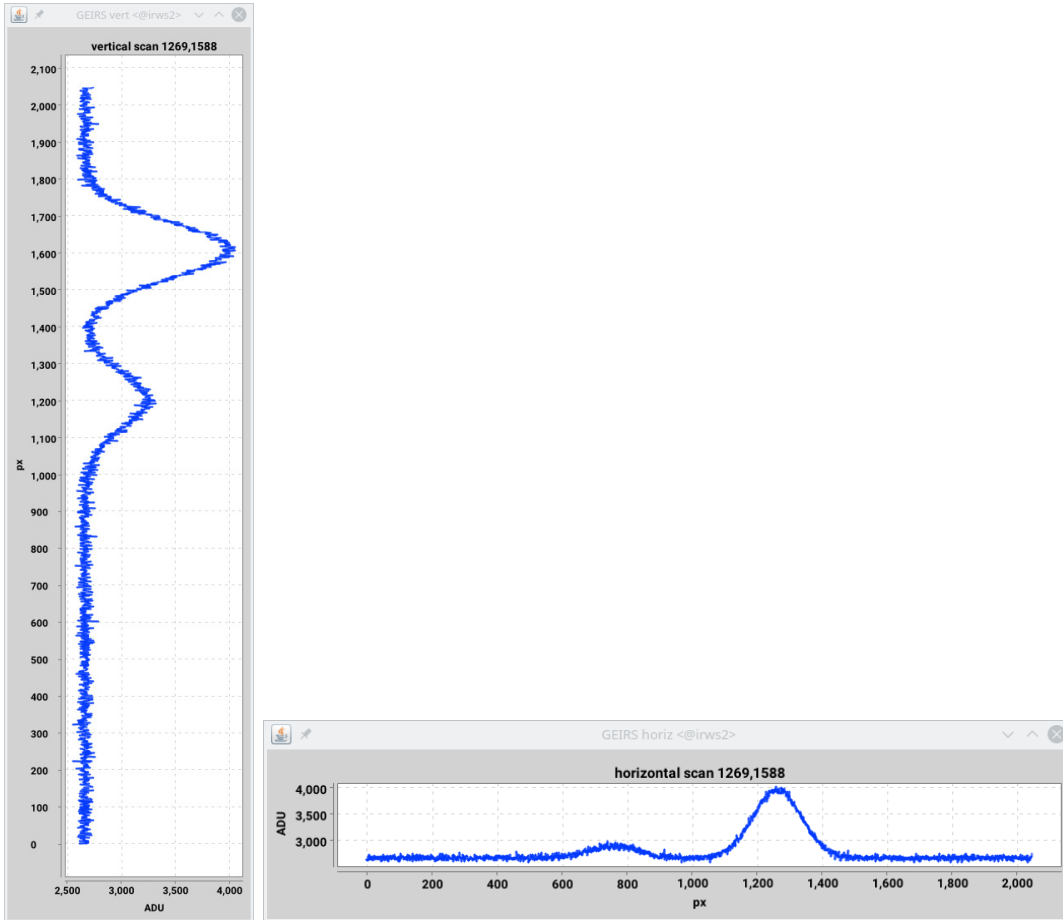

Figure 17: Examples of cut plots activated with the `horiz.` or `vert.` buttons of Fig. 16.
4.3.3.10 Horizontal/vertical Slice. In the next row the `horiz.` and `vert.` buttons open plots that show the pixel values along two straight lines that cut horizontally and/or vertically through the image at the “hot pixel” marked by the center of the cross (Figure 17).⁴⁰ The plots are updated if new images arrive or if the hot pixel is moved. The titles of the plots indicate the FITS x and y coordinates of the common crossing of the two cuts. The buttons are green while the plots are active. The two graphs should be closed by clicking again on the buttons; their color will switch back to gray if de-activated.